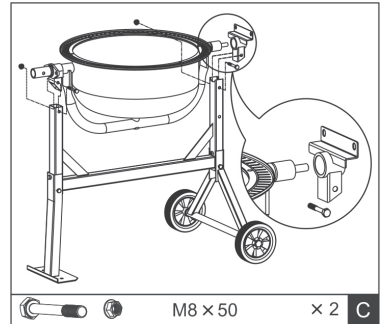

Fig.7
- Slide the bearing onto the shaft of the drum and secure it with the spiral ring. Place the lower part of the drum (in pairs) into the drum frame. The longer end of the shaft points in the direction of the stand. Fasten the drum on both sides with an M8x50 screw and nut (C). Tighten the screw connections. See Fig. 7.